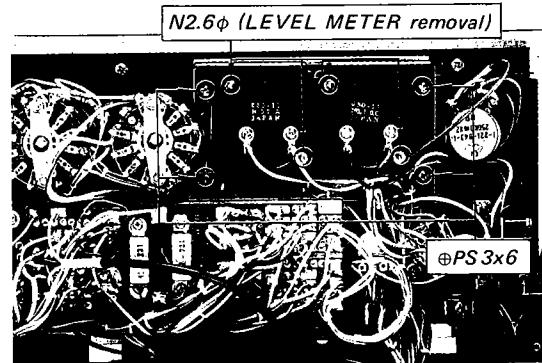

Fig. 2-6. Meter bracket removal
2. Remove the four screws ($\oplus PS\ 3\times 6$) securing the meter bracket to the front subchassis as shown in Fig. 2-6. This frees the meter bracket.